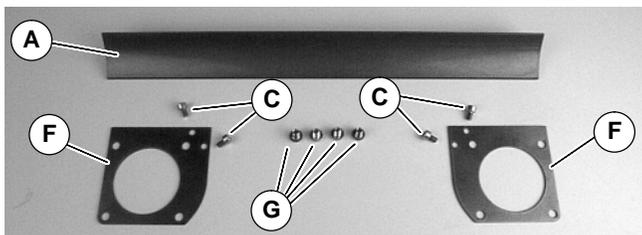

Figure 5
1. Gather components (Figure 5)